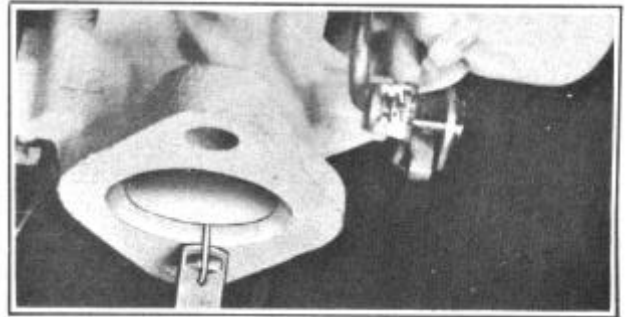

FIGURE 40
22. Adjust anti-percolator, Figure 40, as outlined on Page 4-6, Figures 5 and 6.